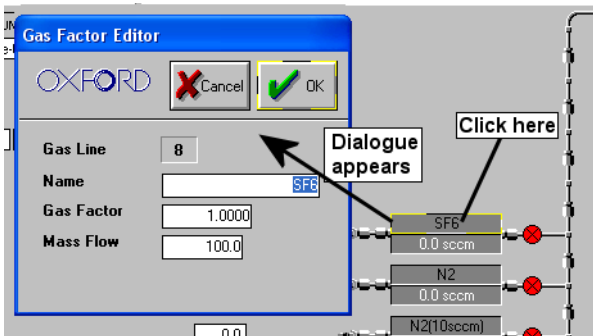

Figure 5-18 Configuring a process gas line
- 2 Click the MFC icon that is to be configured in the Process gas mimic. The **Gas Factor Editor** dialogue opens (see Figure 5-18).